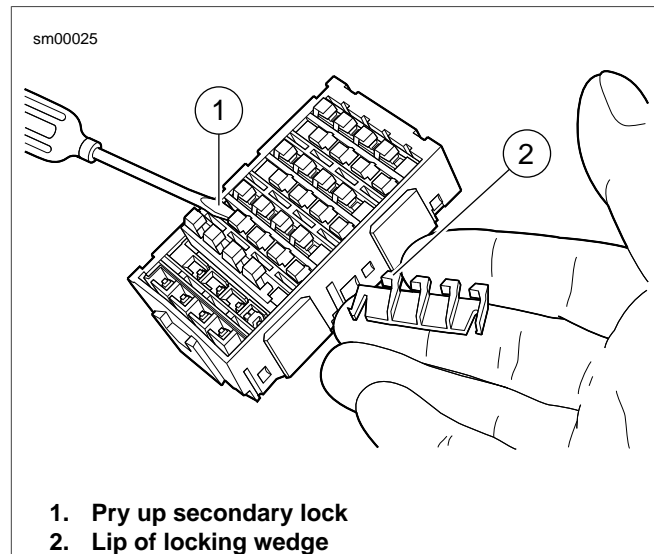

Figure A-36. Fuse Block: Remove Secondary Locks
1. See Figure A-36. To remove secondary locks, insert end of small flat blade screwdriver (1) under lip of locking wedge (2) and gently pry up secondary lock.